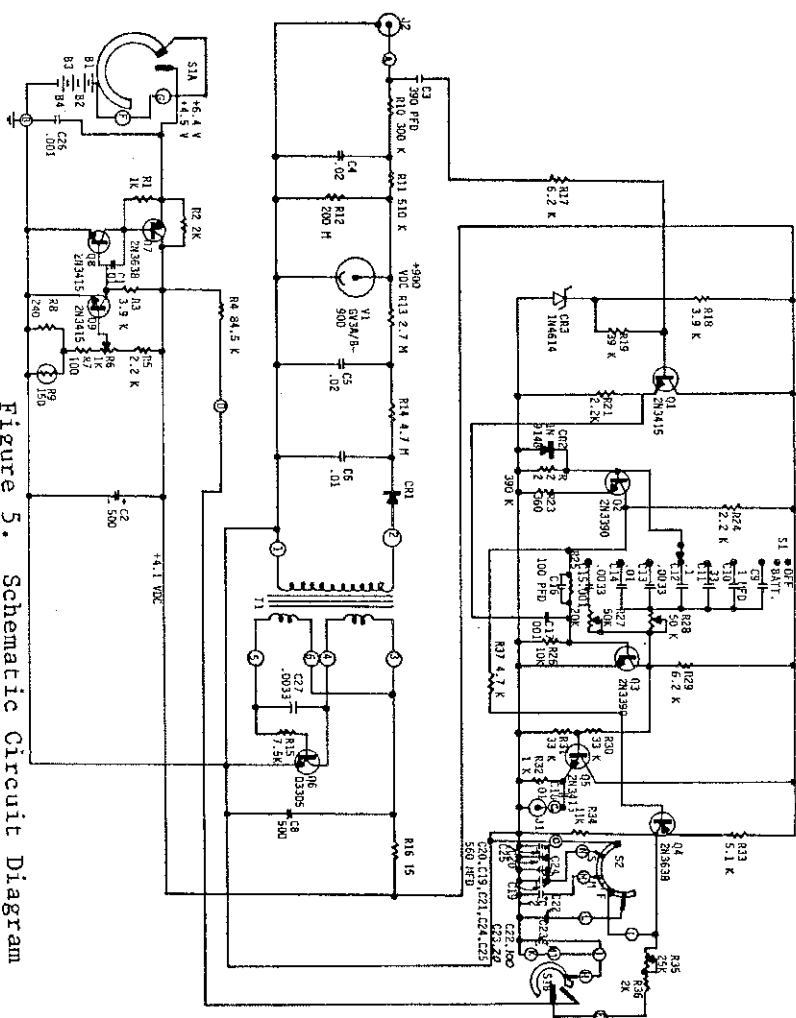

Figure 5. Schematic Circuit Diagram
1.     Connect the voltmeter from the collector of Q7 to ground (Figure 5) and adjust R6 for an output voltage of 4.1 V.